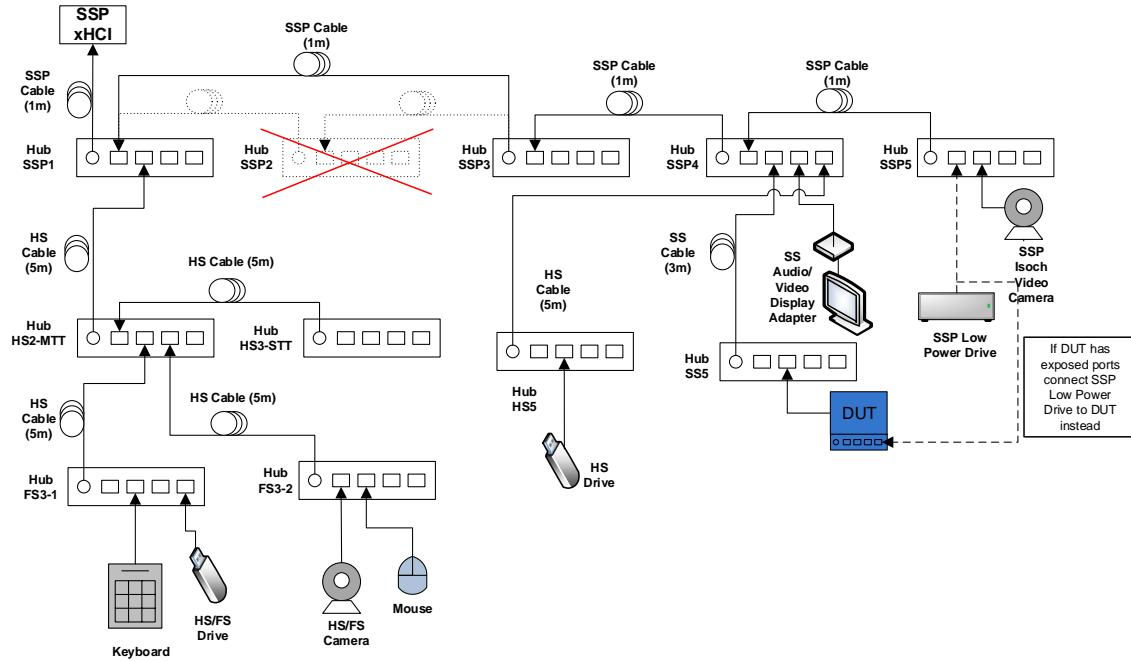
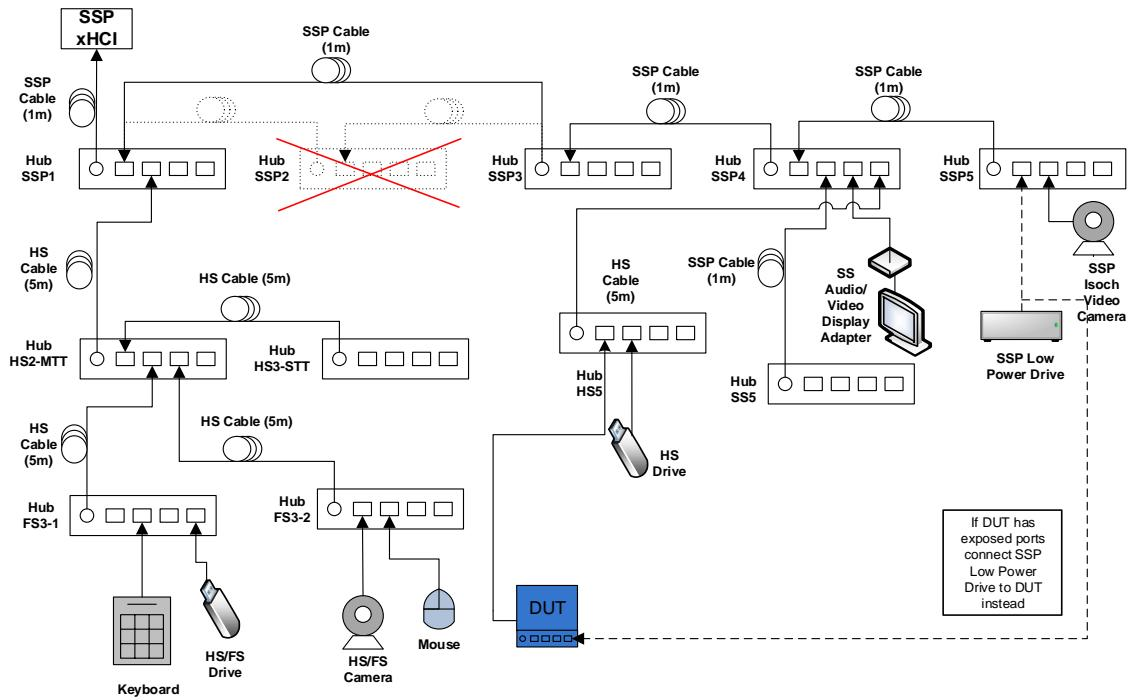
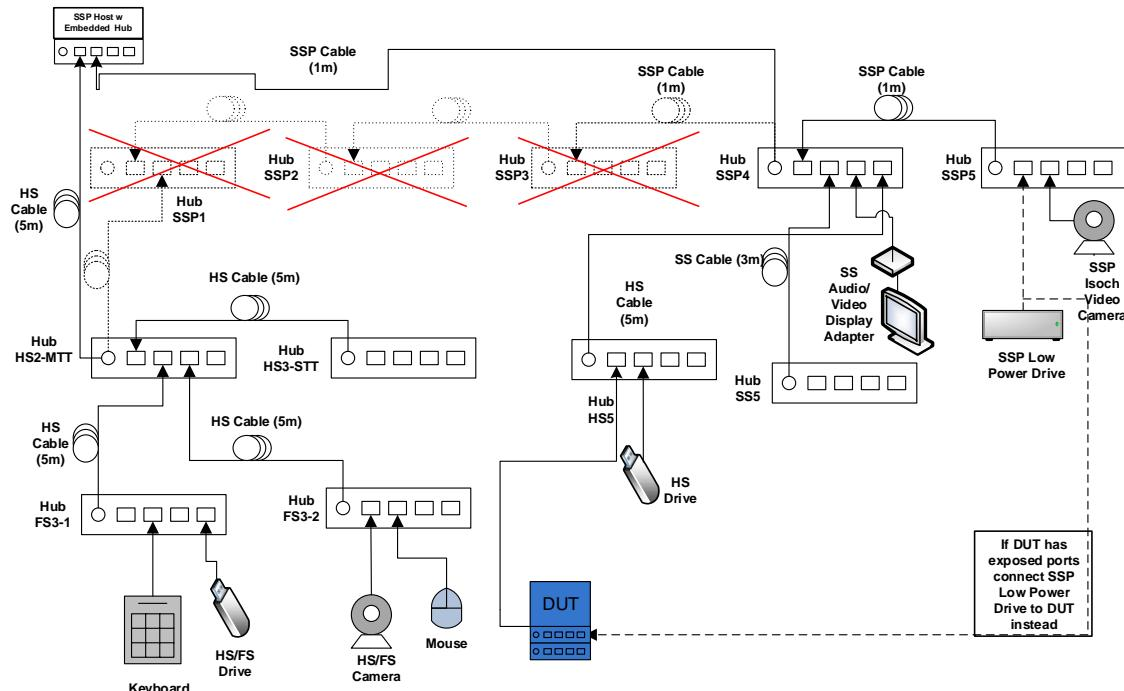

Figure 6-5: Interop Tree with Compound Device – Topology Change 1
Figure 6-9: Interop Tree with Compound Device – Topology Change 2
Figure 6-12: Interop Tree with Compound Device (Dual-Hub) – Embedded Hub – Topology Change 2
- While operating the devices, reattach the Device Under Test to port 4 on Hub SS5 as shown in Figure 6-5 through Figure 6-12.
- While operating the devices, attach the Device Under Test to port 1 on Hub HS5 as shown below in Figure 6-9 through Figure 6-12.